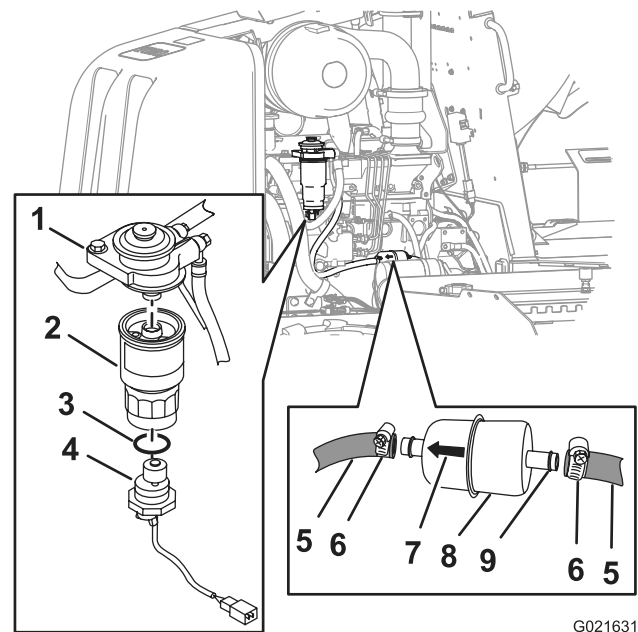

Figure 128
4. Loosen the hose clamps and separate the primary, fuel filter from the fuel hoses (Figure 128).
5. Align the new, primary, fuel filter to the hoses with the arrow printed on the filter pointing forward (Figure 128).
6. Slip the hoses over the hose fitting of the primary, fuel filter, and tighten the hose clamps (Figure 128).
- C. Firmly grasp the secondary-fuel-filter element, and rotate the water sensor counterclockwise, and remove the water sensor (Figure 128).
- D. Firmly grasp the secondary-fuel-filter element, and rotate it counterclockwise, and remove the filter from the filter adapter (Figure 128).
- B. Align the new secondary-filter element to the filter adapter (Figure 128).
- D. Align the new O-ring over the water sensor (Figure 128).
- E. Align the water sensor to the bottom of the secondary, fuel filter (Figure 128).
- F. Firmly grasp the secondary-filter element and rotate the water sensor clockwise until hand-tight (Figure 128).